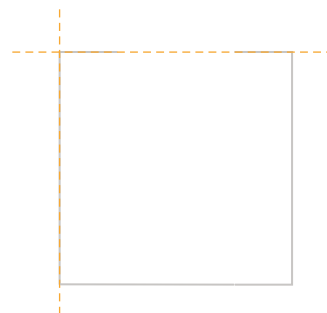

Figure 14: Initial square with reference lines.
- ! Be careful to lay the initial row correctly and at a right angle, as this is crucial for the rest of the installation process and the end result. Use reference lines to maintain the direction, as minor inconsistencies quickly spread to the rest of the floor. See Figure 14.